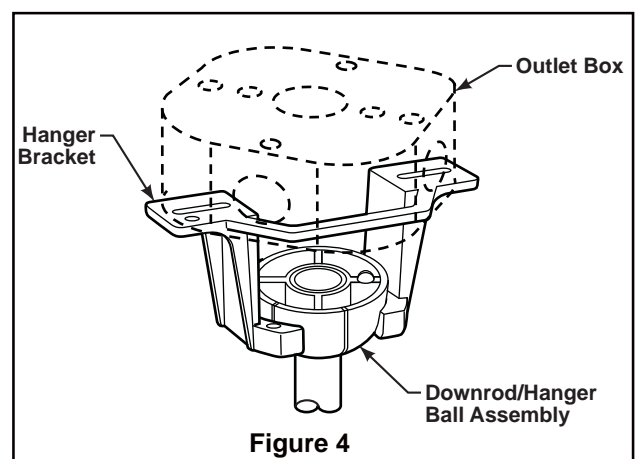

Figure 4
4. Thread downrod into the downrod support on top of the motor. Install the clevis pin by aligning the holes in the downrod support with holes in the downrod. Secure clevis pin with hairpin clip. Tighten the two set screws with nuts in the downrod support. (Figure 4)
2. Carefully lift the fan and seat the downrod/hanger ball assembly on the hanger bracket that was just attached to the outlet box. Be sure the groove in the ball is lined up with tab on the hanger bracket. (Figure 4)
4. Insert light bulb into socket. (Figure 4)